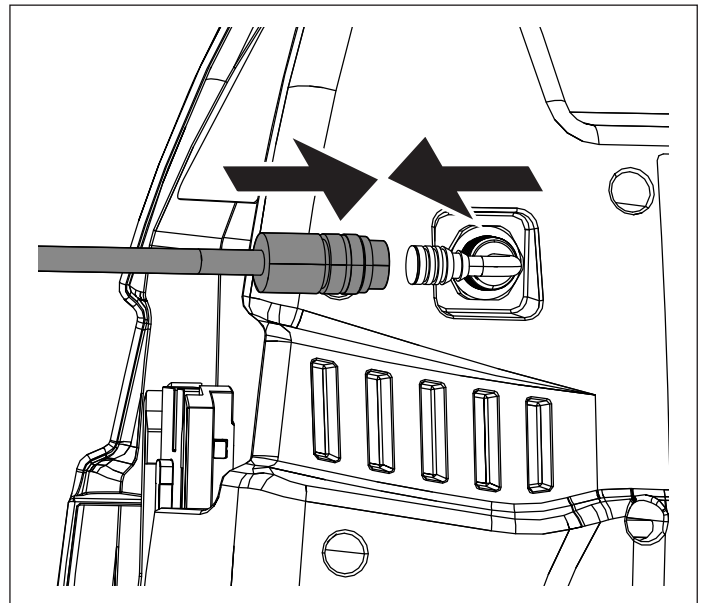

Figure 6, Pendant Connection
2. Connect the pendant cable to the pigtail connector on the pump shroud. See Figure 6.
4. Disconnect the pendant cable from the pigtail connector. See Figure 6.